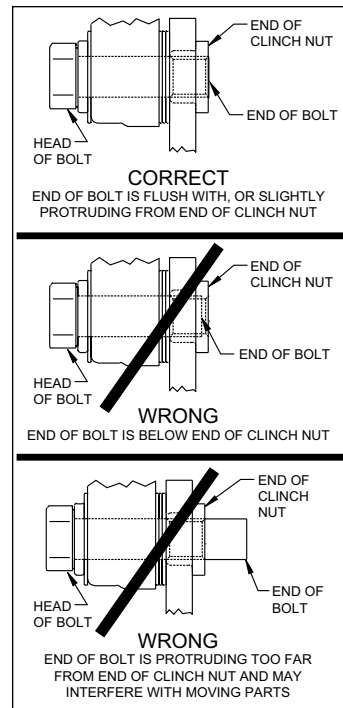

Figure 4. Clinch Nut Engagement Diagram
CAUTION: All mounting bolts must fully engage clinch nuts. Be sure to check that all bolts are either flush or protruding through flanged side of clinch nut after shimming, Figure 4. Rear hole refers to the part of the spindle that would be facing the back of the vehicle, front is facing the front of the vehicle.
- Adjust by adding or subtracting shims (2) between the bracket and the spindle. Always use the same amount of shims on each of the two mounting bolts.
- NOTE:** The end of each bolt must be flush with or slightly protruding from the head of the clinch nut, as shown in Figure 4. If necessary place spare shims (2) between washer (19) and caliper mounting ear to achieve the proper clinch nut engagement. Once the caliper alignment and clinch nut engagement is correct, remove the ProSpindle and steering arm bolts one at a time, apply red *Loctite*® 271 to the threads, and torque to 55 ft-lb. Remove the caliper mount bolts one at a time, apply red *Loctite*® 271 to the threads, and torque to 40 ft-lb.
- Install the disc brake pads (21) into the caliper (18), with the friction material facing the rotor (8), and secure in place using the pad clip retainer (22), Photo 10.